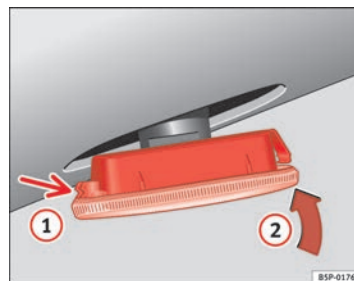

Fig. 147 Side indicators
- First fit the indicator in the opening in the chassis, fastening the tabs ① ⇒ page 216, fig. 147, and then fit in the lamp as shown by the arrow ② ⇒ page 216, fig. 147. ■